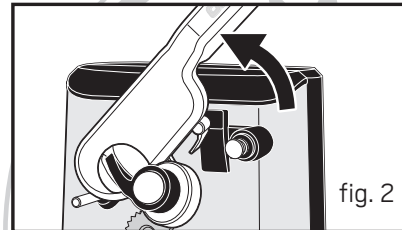

fig. 2
4. Lift up control lever. See fig. 2.